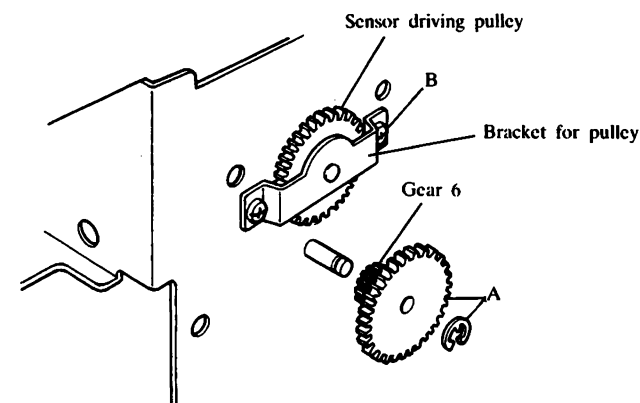

Fig. 35
- (2) Remove the Snap ring E3 for the Gear 6 and remove the Gear 6 which are inside of the Head frame. (Refer to A in Fig. 35)
- (3) Remove the two screws (3×5), then the Bracket and the Sensor driving pulley (gear) will come off. (Refer to B in Fig. 35)